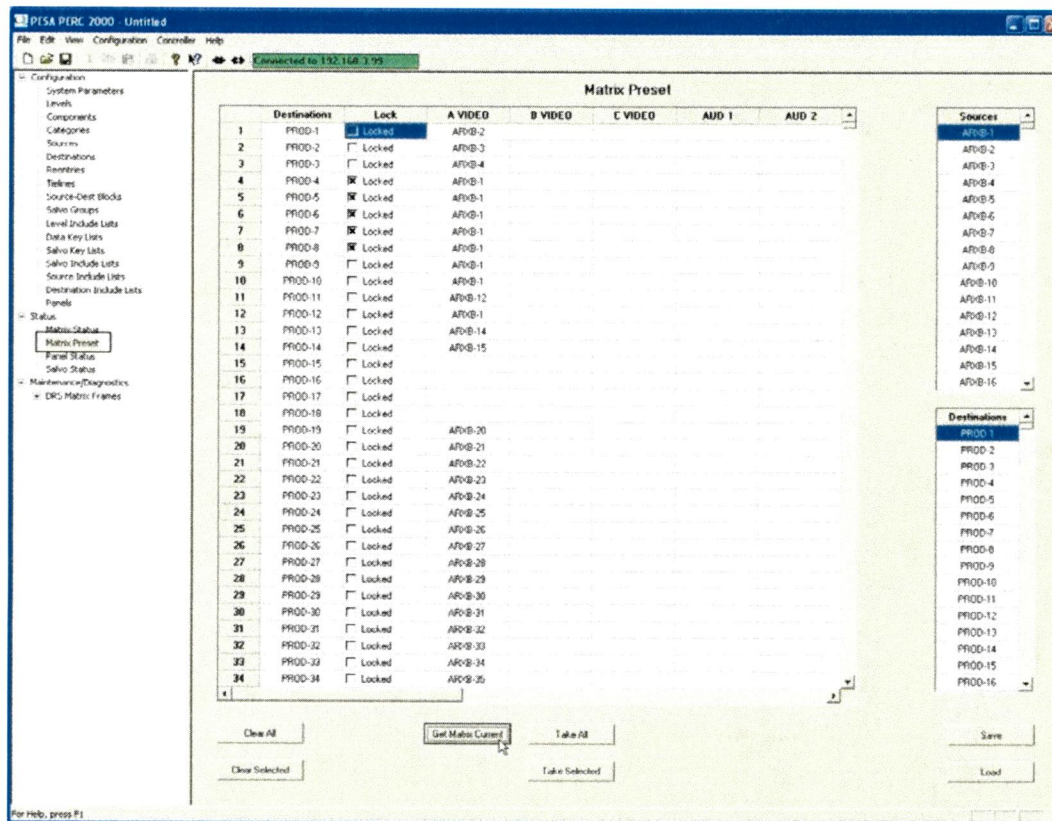

Figure 10. Matrix Preset Screen
8. Locate and click on the Matrix Preset command in the left pane of the GUI display, as shown in Figure 10. This action will bring up the Matrix Preset display as shown. Click the **Get Matrix Current** button as shown. Be sure that the screen updates to the current matrix display before continuing.